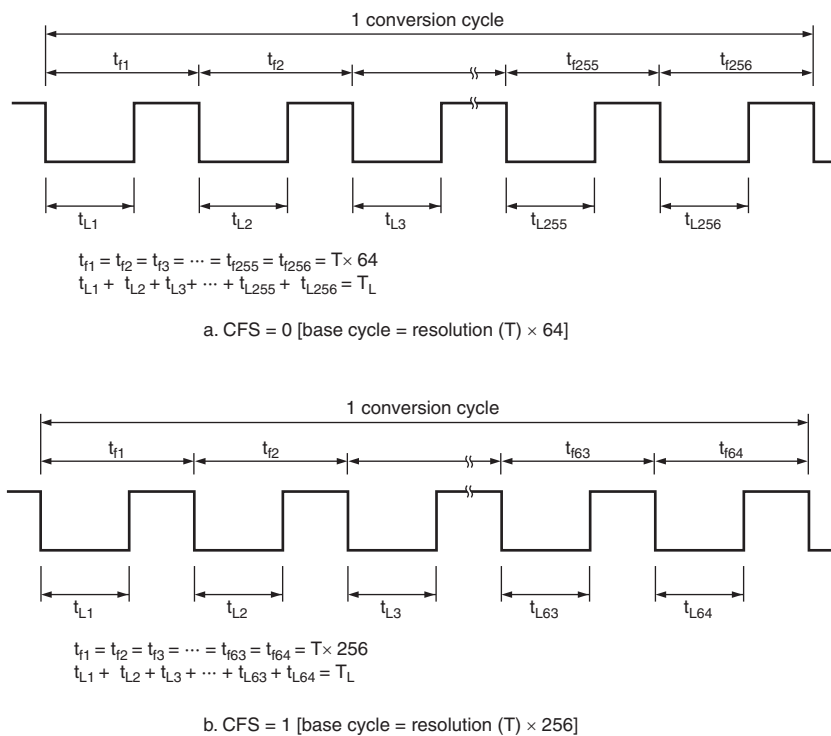

Figure 8.3 Output Waveform (OS = 0, DADR corresponds to T_L)
A PWM waveform like the one shown in figure 8.2 is output from the PWMX pin. The value in DADR corresponds to the total width (T_L) of the low (0) pulses output in one conversion cycle (256 pulses when CFS = 0, 64 pulses when CFS = 1). When OS = 0, this waveform is directly output. When OS = 1, the output waveform is inverted, and the DADR value corresponds to the total width (T_H) of the high (1) output pulses. Figures 8.3 and 8.4 show the types of waveform output available.